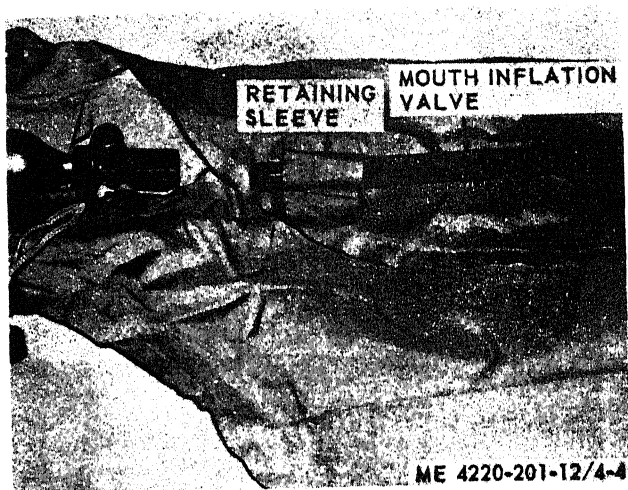

Figure 4-4. Mouth inflation valve secured in retaining sleeve.
f. Adjust the mouth inflation valve to the closed position and insert the valve into the valve retaining sleeve (fig. 4-4).